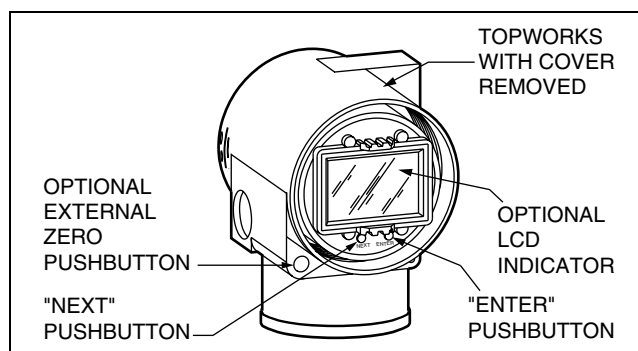

Figure 10. LCD Indicator with Pushbuttons
**Optional LCD Indicator w/Pushbuttons (Figure 10)**
An external pushbutton mechanism (Figure 10) is isolated from the electronics compartment and magnetically activates an internal reed switch through the housing. This eliminates a potential leak path for moisture or contaminants to get into the electronics compartment. This zero adjustment can be disabled by a configuration adjustment.